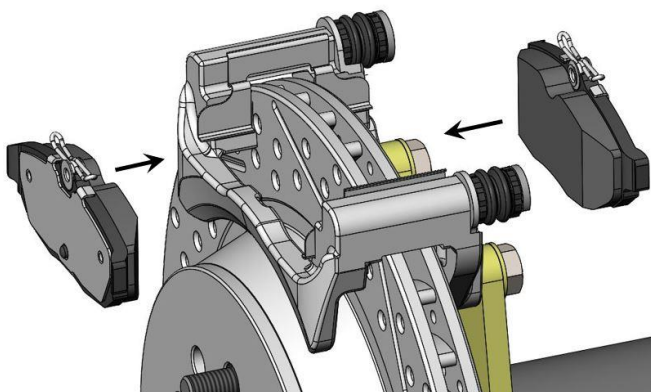
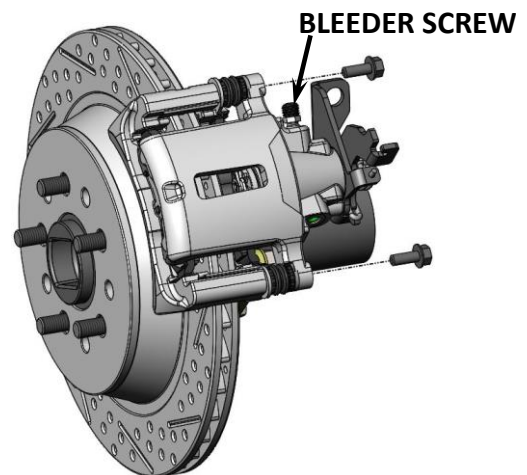

Figure 8a – Brake Pad Installation
Figure 8b - Caliper Installation and Bleeder Screw Orientation
12. With the Abutment Clips installed, install the pads into the Caliper Anchor Bracket. Refer to Figure 8a below for reference. Once the pads are installed slide the caliper body over the brake pads and Caliper Anchor Bracket. With the caliper in place, re-install the caliper mounting bolts between the caliper and the bracket. Torque the bolts to 30 lb/ft. **IMPORTANT:** Make sure that the bleeder screw is pointing upward. See Figure 8b below for reference on installing the caliper.